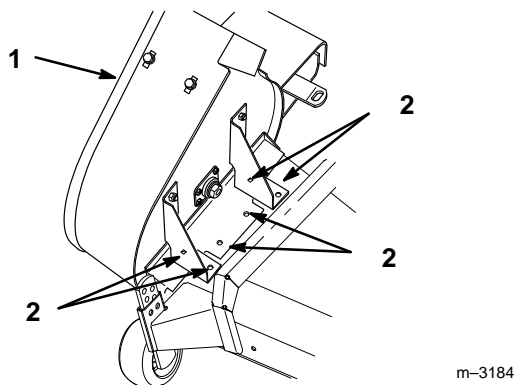

Figure 3
6. Align blower over mower discharge opening, holding tight against front and side of mower discharge opening. Mark the location of (6) holes in the angle brackets and blower mounting flange (Fig. 3).
7. Drill (6) 11/32" mounting holes in top of the mower for blower mounting (Fig. 3).